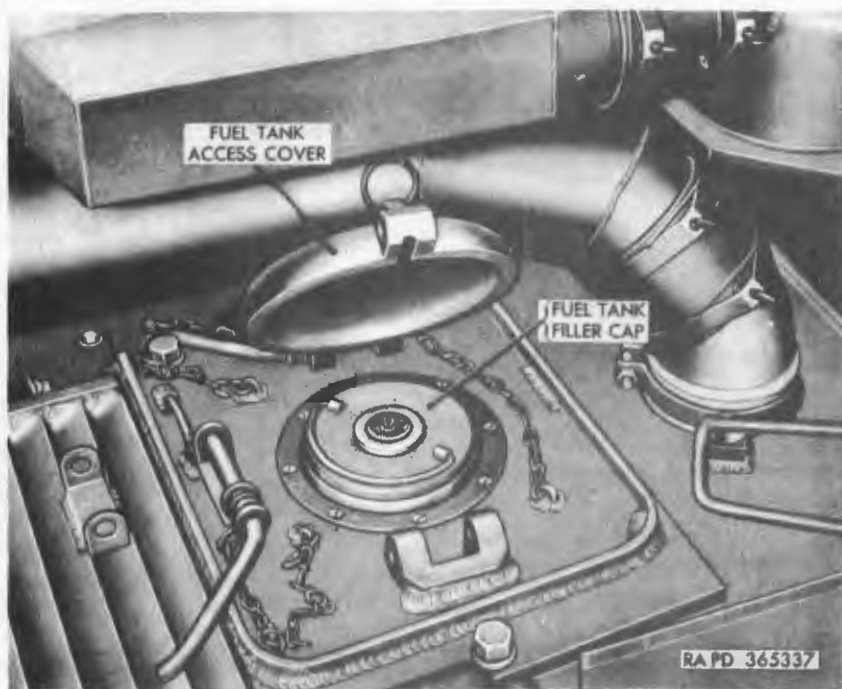
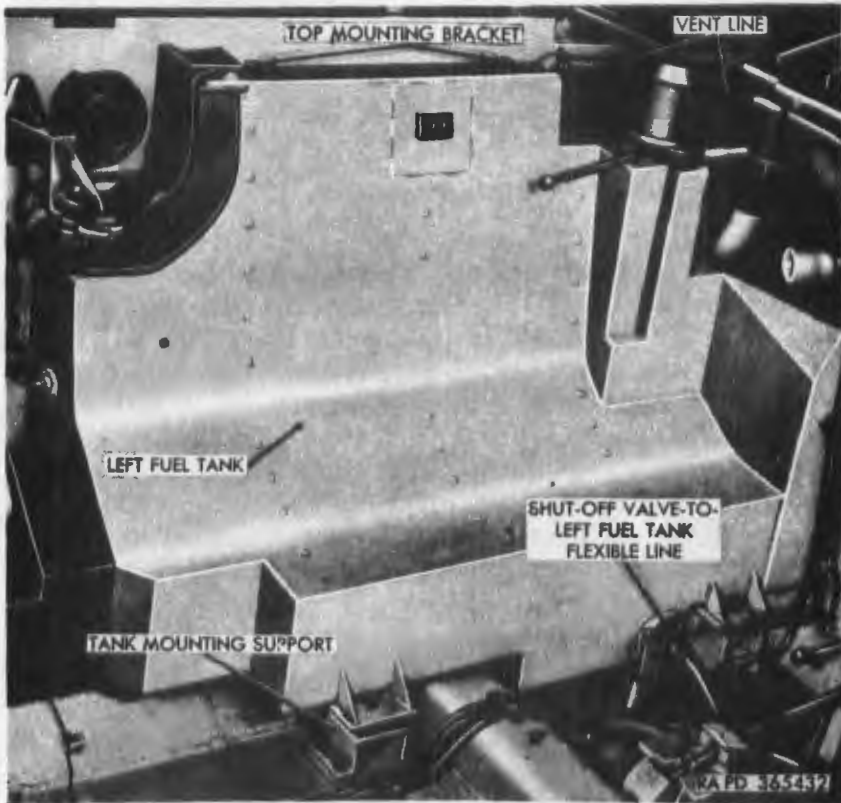
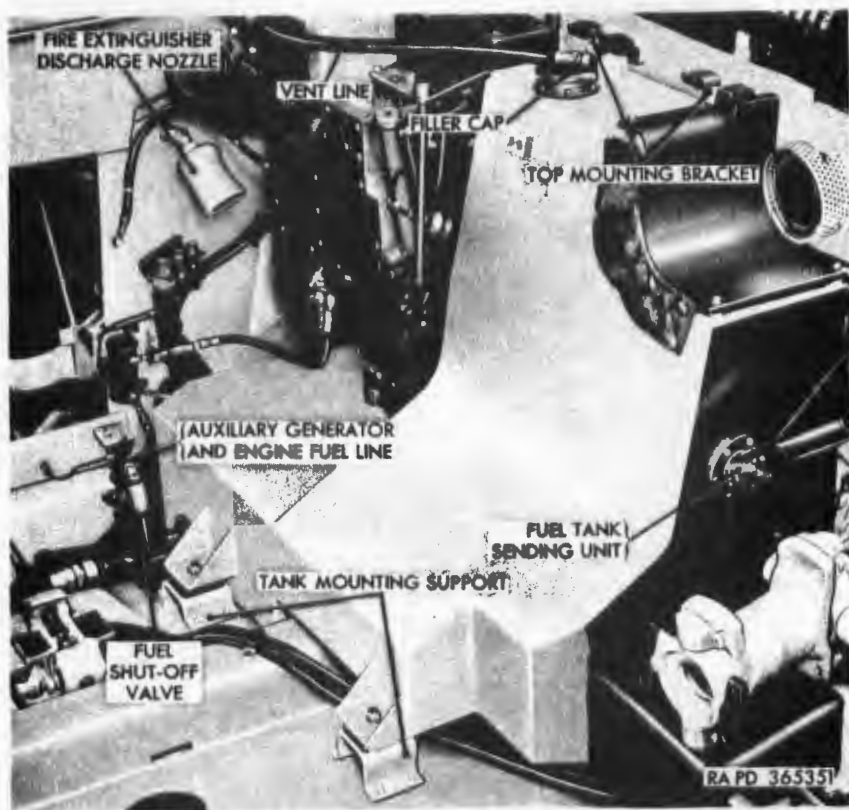

Figure 121. Fuel filler above left fuel tank.
Figure 125. Left fuel tank disconnect points.
Figure 126. Right fuel tank disconnect points.
(1) *Fuel Tanks.* The two welded fuel tanks (figs. 125 and 126), one on each side of the engine compartment, are formed to project beneath the engine cylinders. Their combined capacity is approximately 140 gallons. Under usual conditions, fuel is used from both tanks at the same time. Both tanks are normally filled from the top deck of the vehicle through a filler neck located to the left front of the engine compartment grilles. The right tank receives its fuel from the left tank through a flexible fuel line and the shutoff valve. The left fuel tank filler cap (fig. 121) is protected by a cast armor access cover. The right fuel tank filler cap (fig. 126) is under the engine compartment grille doors and is for emergency use only. Each filler neck has a wire-mesh fuel strainer which is removable for cleaning. Wire-mesh fuel strainers are also located at each fuel tank outlet. Vent lines lead from the top of each tank to the left fuel tank filler. A connection is provided to vent into the hull stowage compartment during deep water fording operations. A swinging-arm type electric fuel gage sending unit (fig. 126) is mounted near the center on the rear side of the right fuel tank on early vehicles and on both fuel tanks on late vehicles.
Remove locking handle and lift fuel tank access cover (fig. 121) at left front of engine compartment grilles and, wipe off dirt around filler opening, remove left fuel tank filler cap. Both fuel tanks may be filled through the same filler neck if the fuel shutoff valve control lever (fig. 9) is in either BOTH ON or OFF position. Fill tanks to 6½-inches from top of filler neck. Install filler cap. Close access cover and install locking handle.
- (1) *Remove power plant.* Refer to paragraph 126.
- (2) *Drain fuel tanks.* Refer to *b* above.
- (3) *Remove left fuel tank* (fig. 125).
- (c) Raise the fuel tank access cover and remove the fuel tank filler cap (fig. 121). Remove eight fillister-head screws in the filler neck grommet. Work the grommet up and remove through the hull opening. Remove six hex-head bolts with integral lockwashers which attach the filler neck to the fuel tank and remove the filler neck with filler neck flange, filter, upper gasket, and spacers. Remove lower gasket. Cover fuel tank opening.
- (4) Remove right fuel tank (fig. 126).
- (1) *General.* If fuel tanks are to be replaced, be certain to remove any brackets, plates, etc, attached to the replaced fuel tank and install them on the new fuel tank.
- (2) *Install left fuel tank* (fig. 125).
- (3) *Install right fuel tank* (fig. 126).